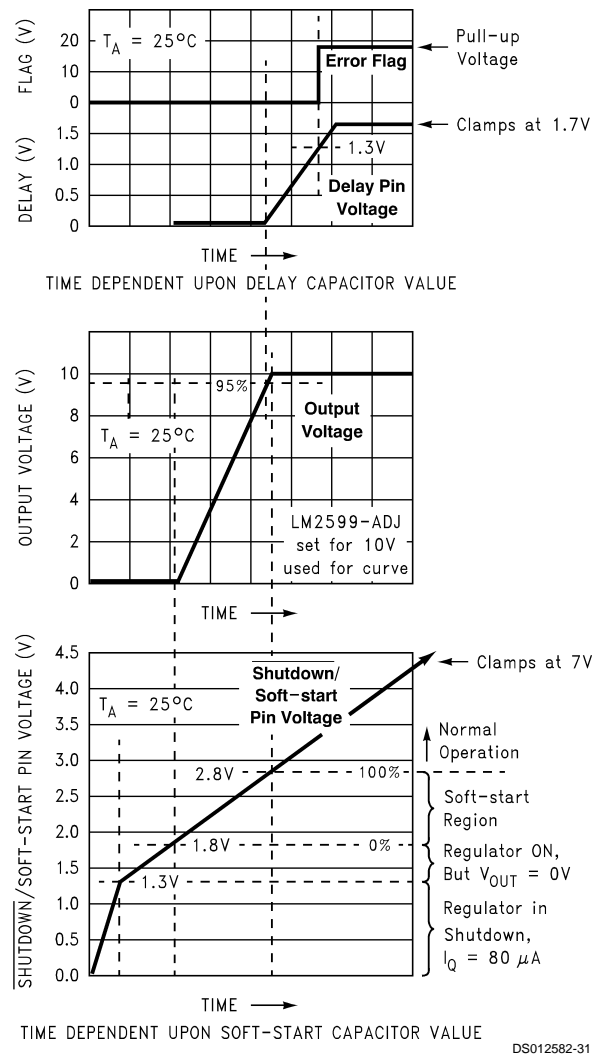
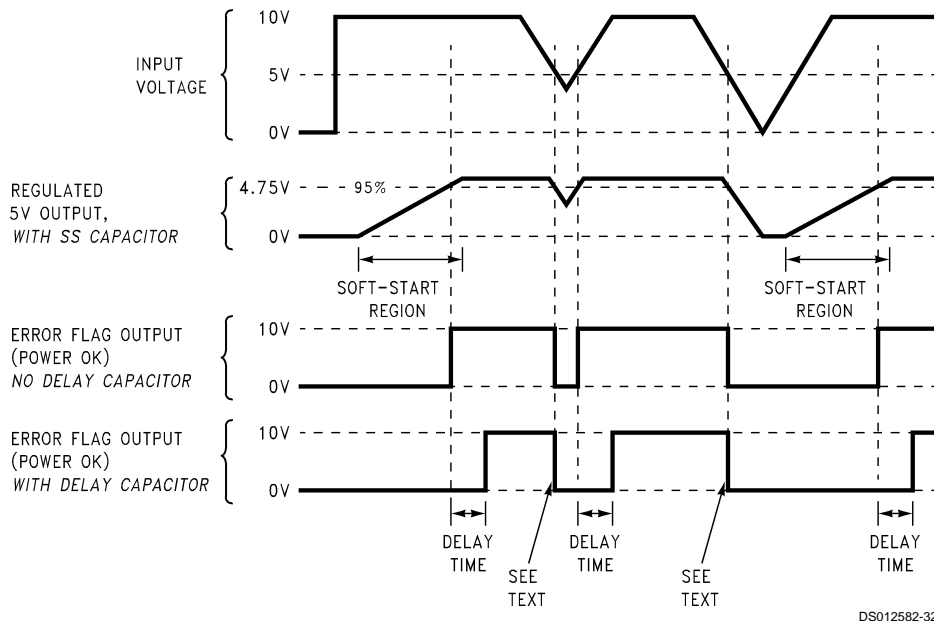

FIGURE 13. Soft-start, Delay, Error, Output
FIGURE 14. Timing Diagram for 5V Output
C_{SS} —A capacitor on this pin provides the regulator with a Soft-start feature (slow start-up). When the DC input voltage is first applied to the regulator, or when the Shutdown /Soft-start pin is allowed to go high, a constant current (approximately $5 \mu A$) begins charging this capacitor). As the capacitor voltage rises, the regulator goes through four operating regions (See the bottom curve in Figure 13).
3. Soft-start Region. When the \overline{SD} /SS pin voltage is between 1.8V and 2.8V (@ $25^{\circ}C$), the regulator is in a Soft-start condition. The switch (Pin 2) duty cycle initially starts out very low, with narrow pulses and gradually get wider as the capacitor \overline{SD} /SS pin ramps up towards 2.8V. As the duty cycle increases, the output voltage also increases at a controlled ramp up. See the center curve in Figure 13. The input supply current requirement also starts out at a low level for
Note: The lower curve shown in Figure 13 shows the Soft-start region from 0% to 100%. This is not the duty cycle percentage, but the output voltage percentage. Also, the Soft-start voltage range has a negative temperature coefficient associated with it. See the Soft-start curve in the electrical characteristics section.
C_{DELAY} — Provides delay for the error flag output. See the upper curve in *Figure 13*, and also refer to timing diagrams in *Figure 14*. A capacitor on this pin provides a time delay between the time the regulated output voltage (when it is increasing in value) reaches 95% of the nominal output voltage, and the time the error flag output goes high. A 3 μA constant current from the delay pin charges the delay capacitor resulting in a voltage ramp. When this voltage reaches a threshold of approximately 1.3V, the open collector error flag output (or power OK) goes high. This signal can be used to indicate that the regulated output has reached the correct voltage and has stabilized.